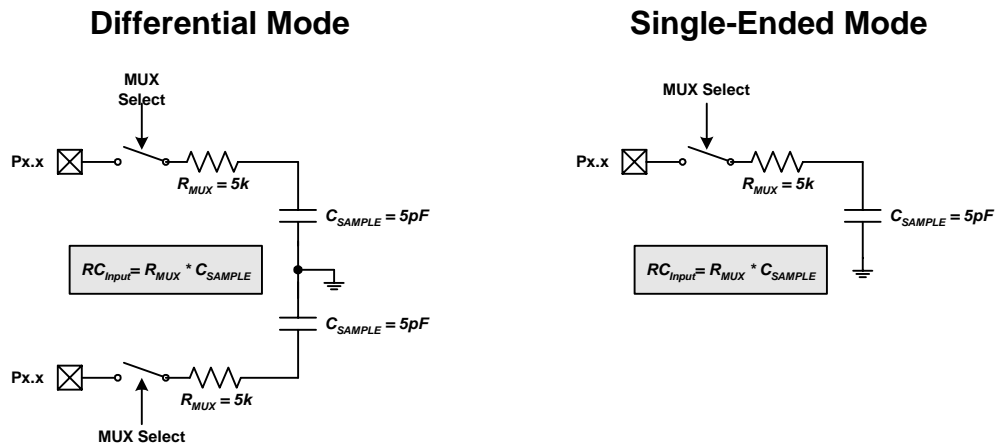

Figure 5.5. ADC0 Equivalent Input Circuits
Figure 5.5 shows the equivalent ADC0 input circuits for both Differential and Single-ended modes. Notice that the equivalent time constant for both input circuits is the same. The required ADC0 settling time for a given settling accuracy (SA) may be approximated by Equation 5.1. When measuring the Temperature Sensor output or V_{DD} with respect to GND, R_{TOTAL} reduces to R_{MUX} . See Table 5.1 for ADC0 minimum settling time requirements.